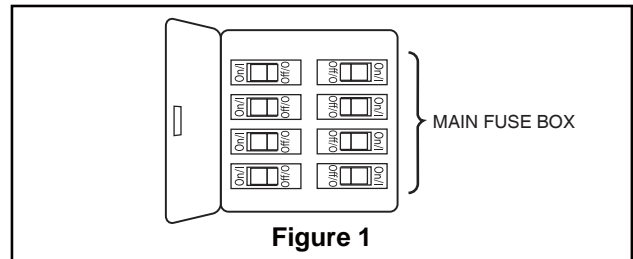
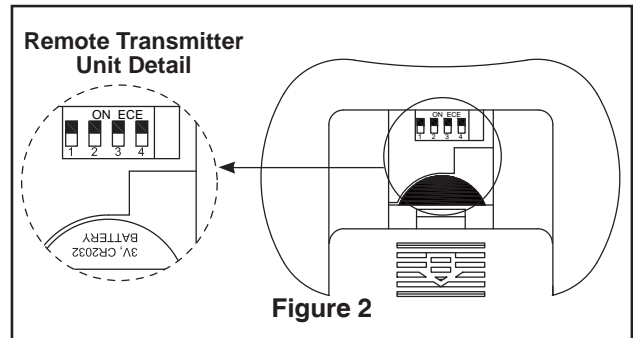
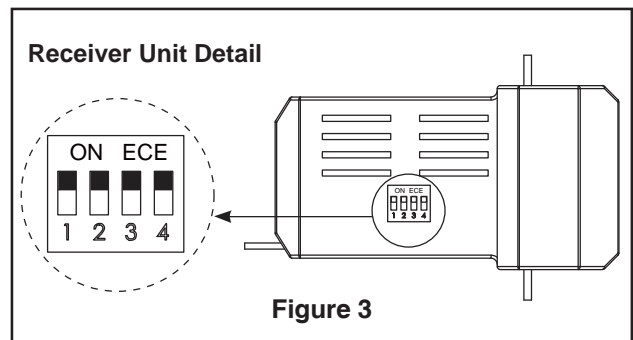

Figure 1
Figure 2
Figure 3
Your new ceiling fan will require a grounded electrical supply line of 120 volts AC, 60 HZ, 15 Amp Circuit. Electrical code requires use of a fan-rated outlet box to support the extra weight and motion associated with a ceiling fan. A fan-rated box will be labeled as such and typically supports up to a 70lb ceiling fan. Fan-Rated Outlet Boxes vary in ratings and design. Ensure the ratings of your ceiling fan outlet box meet the requirements for the ceiling fan being installed. Figure 1, Figure 2 and Figure 3 depicts different structural configurations that may be used for mounting the outlet box.
Low profile box (Figure 1)
Deep box (Figure 2)
Deep box with brace (Figure 3)
1. Remove the hanger ball portion from the downrod/hangerball assembly by loosening the set screw in the hanger ball until the ball falls freely down the downrod. Remove the pin from the downrod, then remove the hanger ball. Retain the pin and hanger ball for reinstallation in Step 6 (Figure 1).
2. Remove the hairpin clip and clevis pin from the bottom of the downrod. Retain the pin and clip for reinstallation in Step 4 (Figure 2).
3. Loosen the two set screws in the downrod support. Route black, blue and white lead wires through the downrod (Figure 3).
To avoid possible fire or shock, be sure electricity is turned off at the main fuse box before hanging (Figure 1).
The fan must be hung with at least 7' of clearance from floor to blades (Figure 2).
1. Securely attach the hanger bracket to the outlet box using the outlet box screws and washers supplied with the outlet box (Figure 3).
To avoid possible electrical shock, be sure electricity is turned off at the main fuse box before hanging (Figure 1).
1. To set the transmitter code, remove battery cover by pressing firmly below arrow and sliding cover off. Slide code switches to your choice of up or down position. Factory setting is all up. Do not use this position. With a small screwdriver or ball point pen slide firmly up or down. Replace battery cover on the transmitter (Figure 2).
2. To set the receiver unit code, slide code switches to the same positions as set on your transmitter (Figure 3).
1. Remove one of the two shoulder screws in the hanger bracket. Loosen the second shoulder screw without fully removing it. Assemble canopy by rotating key slot in canopy over shoulder screw in hanger bracket. Tighten shoulder screw. Fully assemble and tighten second shoulder screw that was previously removed (Figure 1).
2. Securely attach and tighten the canopy screw cover over the shoulder screws in the hanger bracket utilizing the keyslot twist-lock feature (Figure 2).
1. Position the blade over the blade holder with threaded posts showing. Make sure the bottom edge of the blade is fully seated against the blade arm. With a Phillips screwdriver, tighten 3/16"-24 washer head screws and fiber washers to secure the blade to the blade arm (Figure 1).
2. Secure the blade holders to the motor support using the 1/4"-20 screws through the holes located on the bottom of the motor support (Figure 2).
3. Remove one of the three screws in the support bracket at the bottom of the motor assembly. Slightly loosen the remaining two screws. Assemble the light plate assembly to the support bracket using the two key slots in the socket plate. Replace the third screw and securely tighten all three screws (Figure 3).
- 1. **IMPORTANT:** Using a full range dimmer switch (not included) to control fan speed will damage the fan. To reduce the risk of fire or electrical shock, do not use a full range dimmer switch to control the fan speed. (Figure 1)
- 2. Restore electrical power to the outlet box by turning the electricity on at the main fuse box (Figure 2).
- 3. To make fan operational, install two piece of 3-volt battery in hand-held remote transmitter, (if not using for long periods of time, remove battery to prevent damage to transmitter). Store the remote away from excessive heat or humidity (Figure 3).